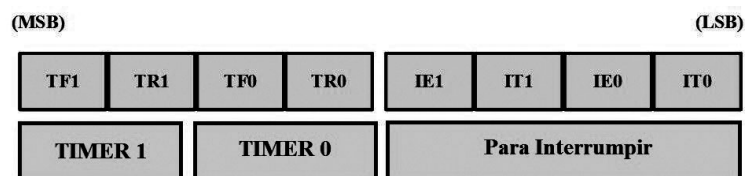

Figura 11.7: Registro TCON 1
- \* Registro de Control: TCON (Figura 11.7)